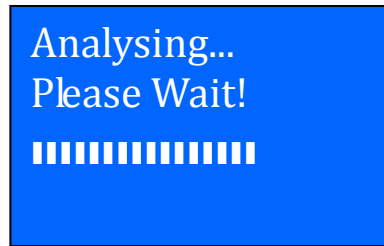

Figure 34
7. Press  key again and it will start analyzing (Fig. 34)